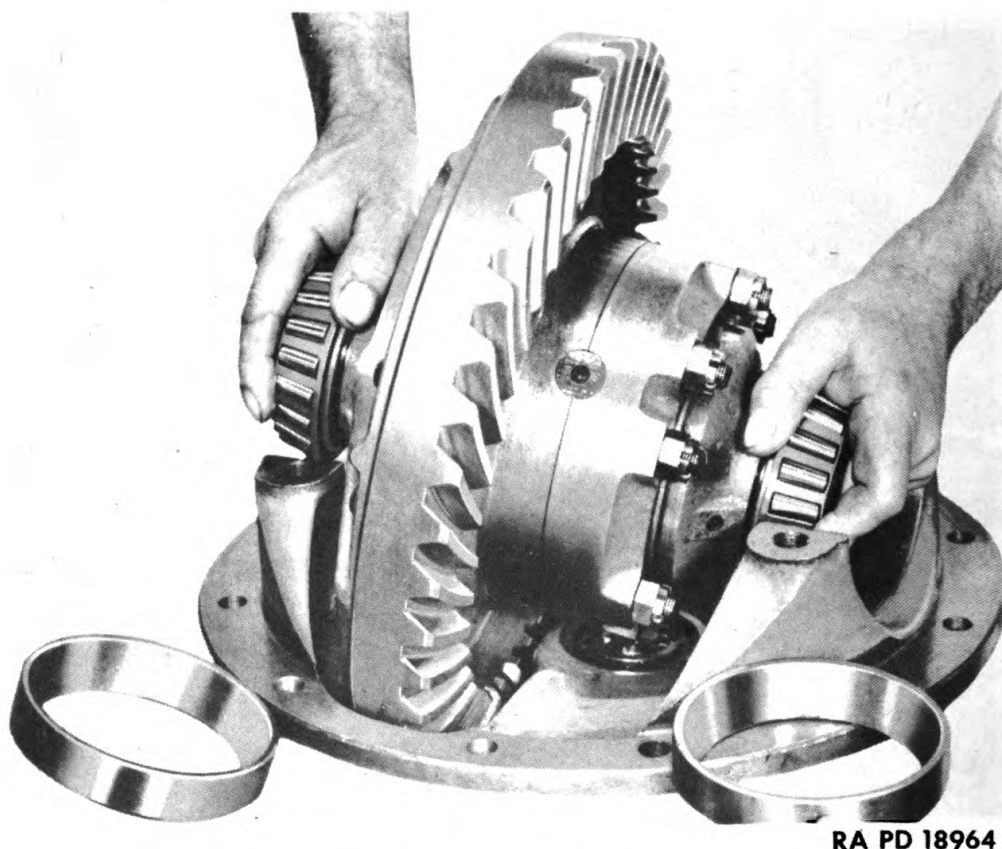

Figure 46 — Removing Differential from Carrier
(2) **REMOVE DIFFERENTIAL FROM CARRIER.** Remove bearing adjusters, one on each side, and remove two bearing cups. Lift differential from carrier (fig. 46).